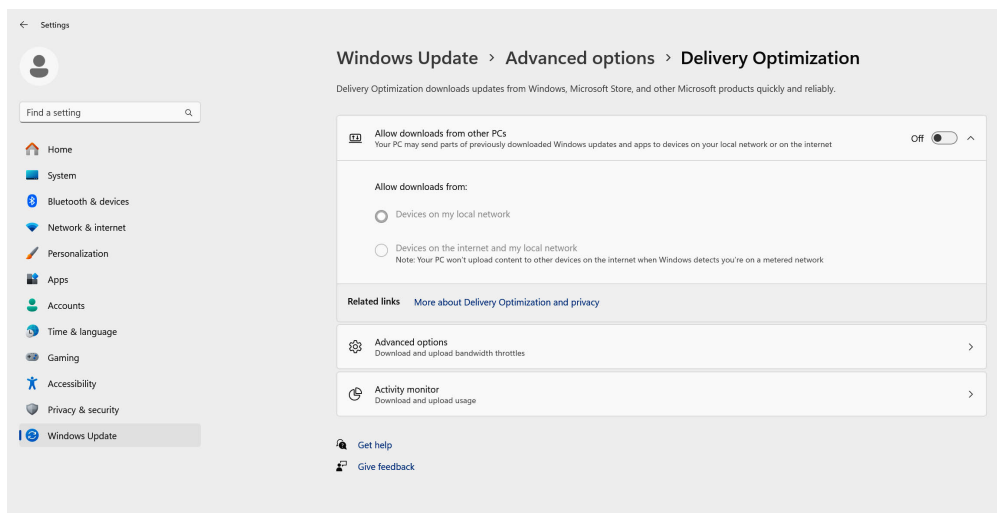

Figure 33: Win 11 Delivery Optimization
3. Next, Click on **Delivery Optimization** and choose “Allow Downloads from other PCs” - **OFF**. (Fig 33)